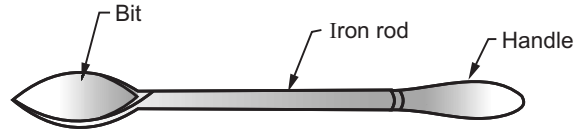

Fig. 8.1 : Soldering iron
- Fig. 8.1 shows the commonly used soldering iron.